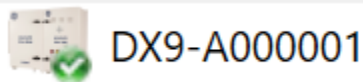

Figure 10-3: Successful connection to DGA 900 Plus
5. If a successful connection is made, a green tick appears on the DGA 900 Plus icon in the Asset Hierarchy as shown in Figure 10-3.